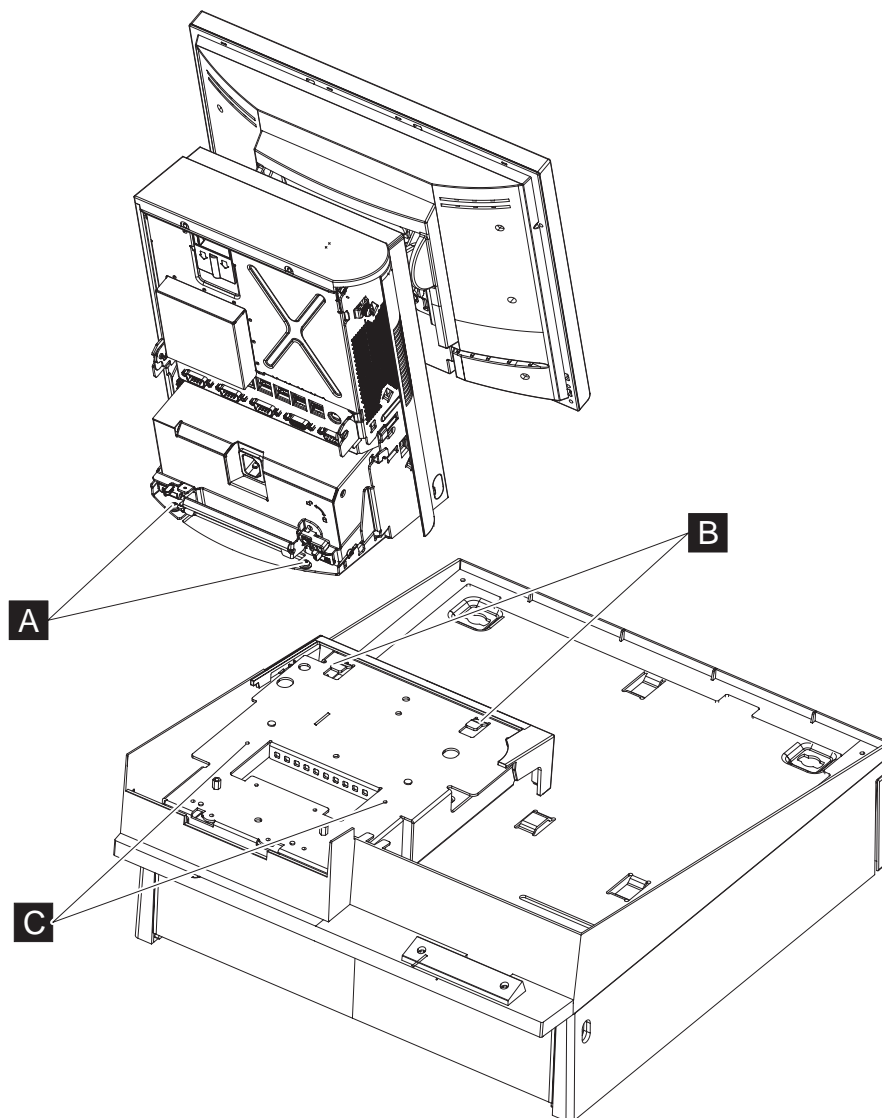

Figure 68. Installing the SurePOS 500 onto the integration tray
4. Attach the SurePOS 500 to the mounting plate as shown in Figure 68 on page 105. Slide the unit from the back toward the front until the frame fits into the tabs **B**, and the screws **A** and mounting holes **C** are lined up. Tighten the two base-bracket screws. Reuse the screws that held the base plate to secure the system to the integration tray bracket.